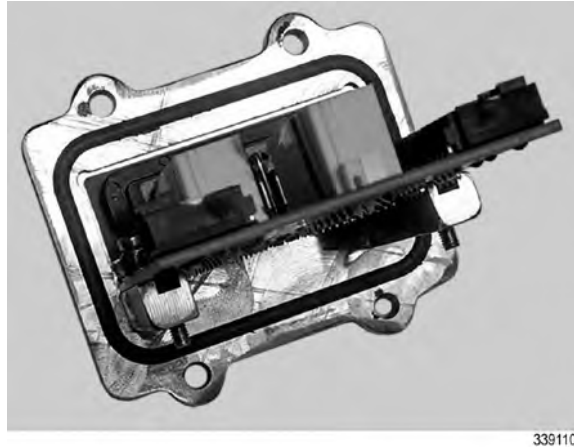

Figure 9. New EMI Gasket on New Signal Interface Card
5. Install a new EMI gasket (P/N 29540711) into the new signal interface card (P/N 29547435) mounting flange groove (refer to Figure 9). Ensure the gasket is fully seated in the groove and is not twisted, stretched, or torn. Place the new signal interface card through the DPIM housing.